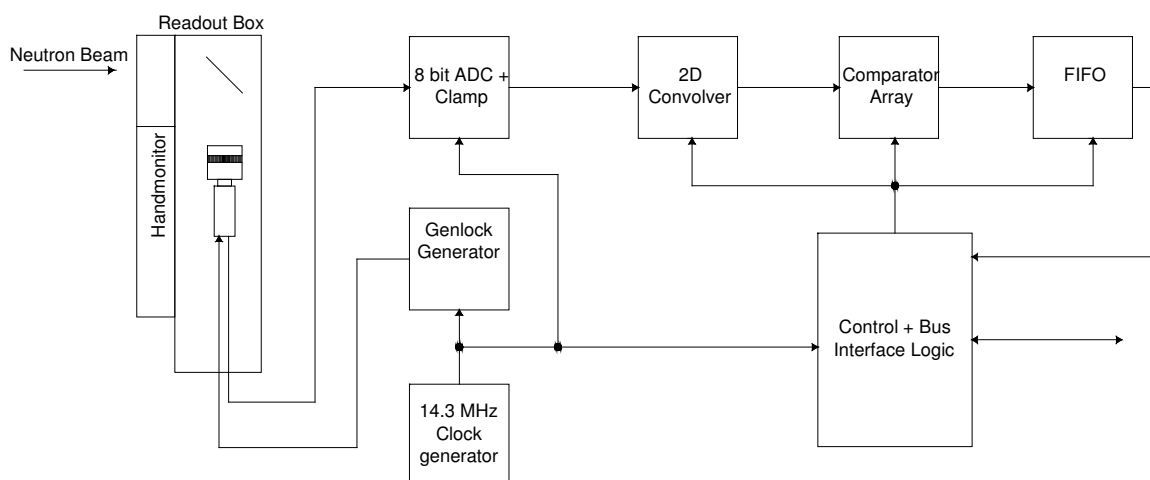

Fig 1 Block diagram of a RCP detector system
1. The CCD camera (see fig.1) views the screen of the ND&M Neutron Handmonitor. The video signal of this camera is digitized by an 8 bit analog-to-digital converter. The camera is synchronized by a genlock generator on the Realtime Centroiding Processor to ensure a pixel-synchronous digitization of the video signal.
- Before inserting the Realtime Centroiding Processor in your PC, please check the jumper settings for selecting the base address of the board. Refer to fig. 1 for determining the correct settings.